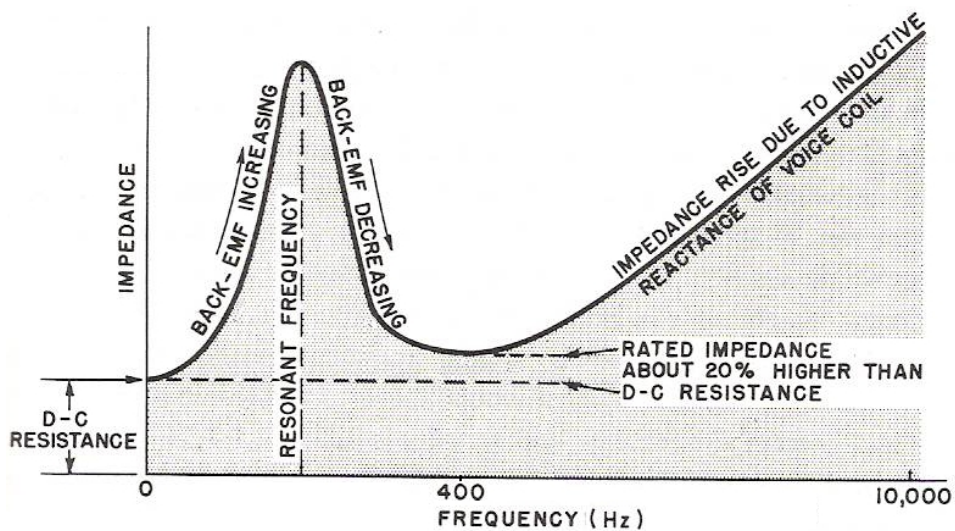
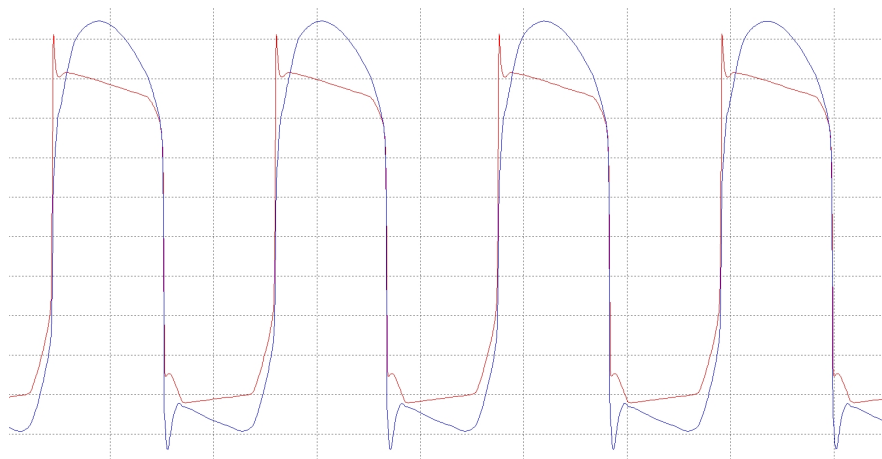

Figure 6. Speaker Impedance Curve.
Figure 7. Response of the PAE-2 to a resistive load (red) and to a speaker load at its resonant frequency (blue).
**CAB (internal DIP switches):** Speakers don't provide a steady dc resistance throughout their frequency range. The impedance curve of a typical guitar/bass speaker is shown in Figure 6.
From Figure 6 it can be seen that the speaker exhibits an impedance peak at its resonant frequency and impedance rises again with increasing frequency as a result of the voice coil inductance (which was addressed in the flyback voltages section above). The resonant frequency impedance peak also affects the tube power amp's response in that the back-emf generated at the speaker increases power output and volume in the resonant frequency range and also "softens" or smoothes the sharp edges of the waveform if the power amp is clipping heavily. This does not occur in solid-state amps due to their low output impedances (high damping factors), nor does it occur in tube power amps connected to a purely resistive load (like some attenuators). Figure 7 shows the response of the PAE-2 to a resistive load and at the resonant peak of a typical guitar speaker.